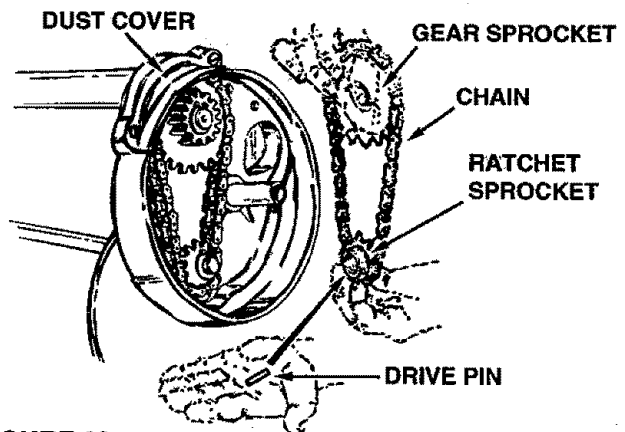

FIGURE 28
- Remove the chain and both sprockets, holding them in position and sliding them off both of the shafts. (Look for the drive pin, which may fall out of the brush shaft when the ratchet sprocket is removed.) See figure 28.